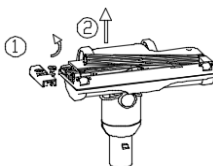

Fig.13
5. Use a slot type screwdriver or a coin to rotate the brush cover and remove brush roll for cleaning (Do not wash). (Fig. 13)